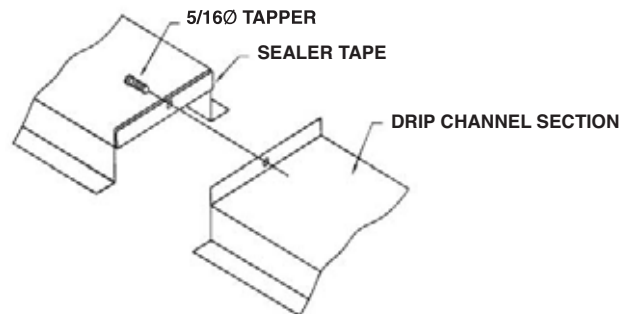

Figure 11 – Drip Channel Assembly
8. Remove the 1/4" bolts which hold the drip channel retaining clips to the end panel. Remove the drip channel sections and fasten them together, end to end, by driving a self-tapping 5/16" screw through the section end with the larger hole into the mating end with the smaller hole. Stainless steel units use 1/4" stainless steel rivnuts and bolts. See Figure 11.